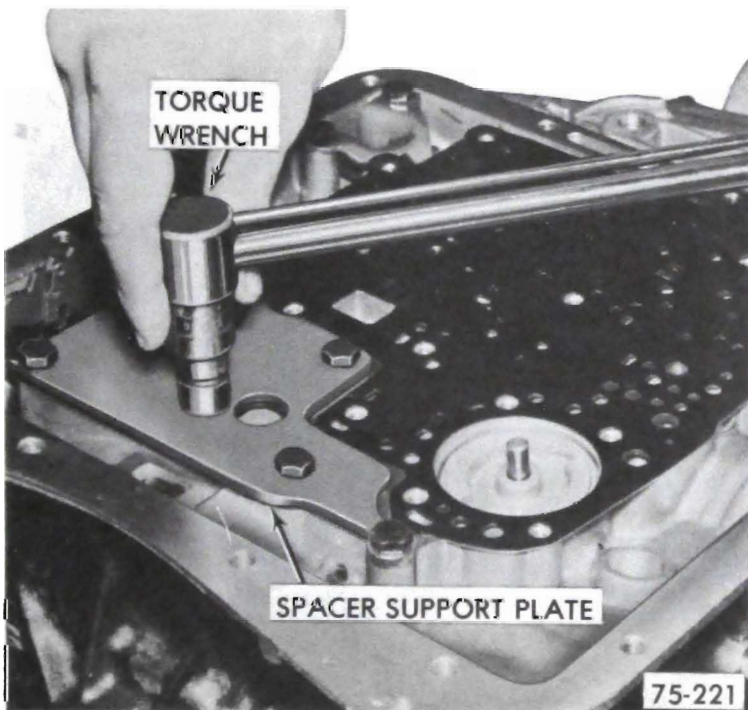

Figure 75-273
3. Install spacer support plate. Torque bolts to 13 lb.ft. See Figure 75-273.